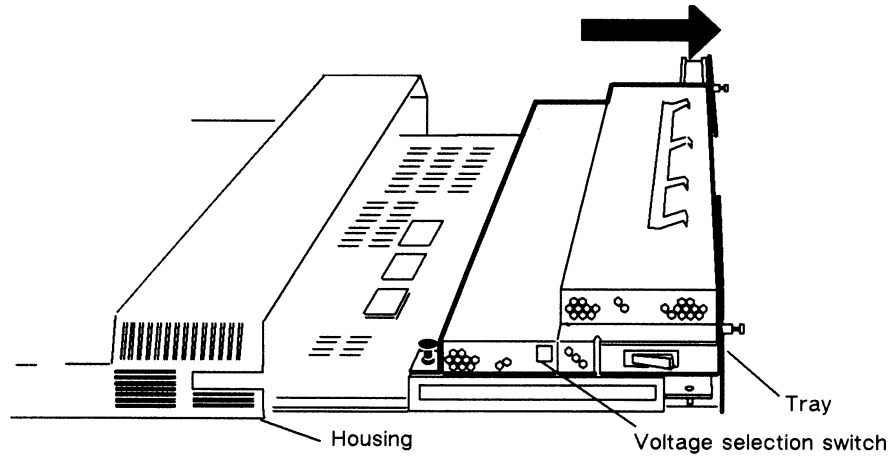

Figure 2-2 Sliding the Tray Assembly out of the Housing
3. Slide the tray assembly out of the housing (until the voltage selection switch is visible) as shown in Figure 2-2.